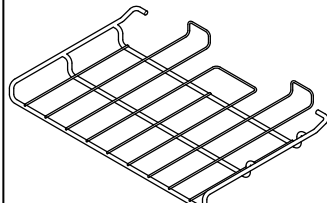

Fig.2-18
- 1 telescopic shelf with runners (**Fig.2-18**)